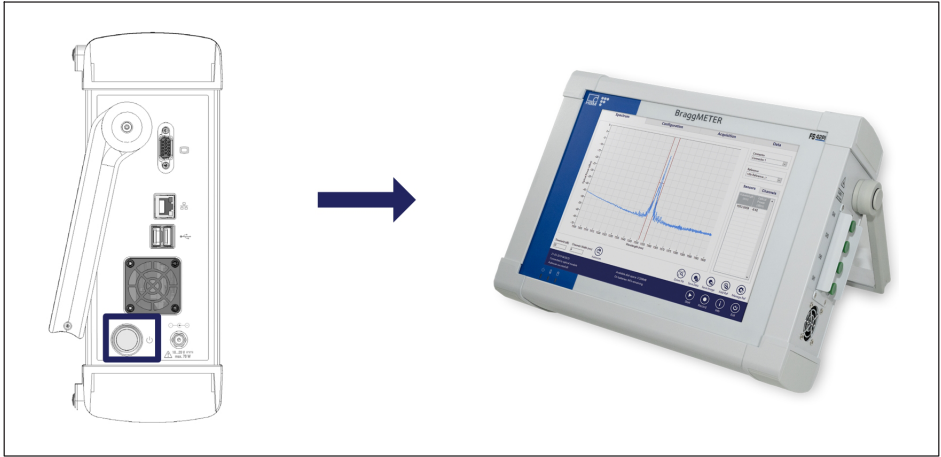

Fig. 3.4 Switching off via hardware
▶ Alternatively, press and release the **ON/OFF** button (see Fig. 3.4) for a minimum of 200 and a maximum of 1500 milliseconds. A pop-up will appear to confirm the action.